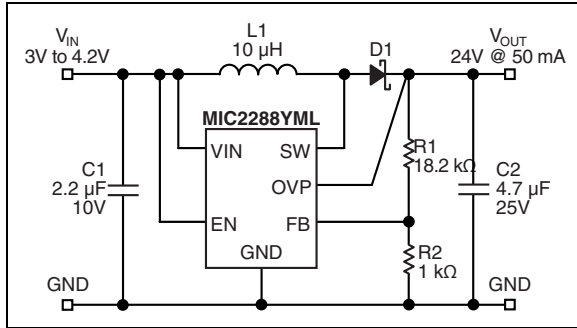

FIGURE 6-5: 3.0V to 4.2V V_{IN} to 24 V V_{OUT} @ 50 mA.
- Updated part number C2 (Figure 6-5).